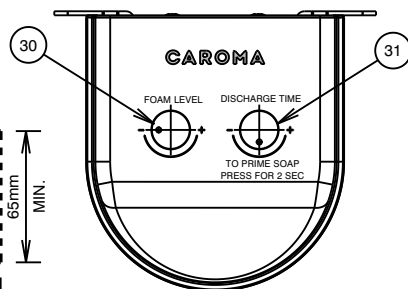
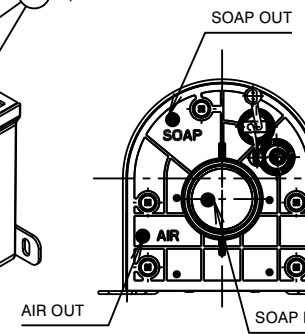

Fig. 1 - Soap control unit functions
Fig. 8 - Sensor minimum clearance area
- * The sensor window height is 18mm from the base and needs a clear space in front to operate properly as shown in Fig. 8. If the soap dispenser is to be installed behind an inset basin and the sensor window will be blocked, a matching riser piece can be purchased to raise the soap dispenser higher by 60mm.
- * It is recommended to use water based foam soap; However, a non-water based liquid soap can also be used. Soap solution viscosity should be within 100 to 2500 cps. For high viscosity soap solutions, the foam level knob (30) must be set to minimum at '-' no air to enable smooth dispensing. For water based solutions, the foam level knob (30) must be turned anti-clockwise towards '+' max. air.
- * Soap control unit must be primed before first use and after every refill. Follow priming instructions, as shown in Fig.1.
- * The soap control unit (12) is mains powered only. Separate battery box is supplied which can be used as a battery backup.